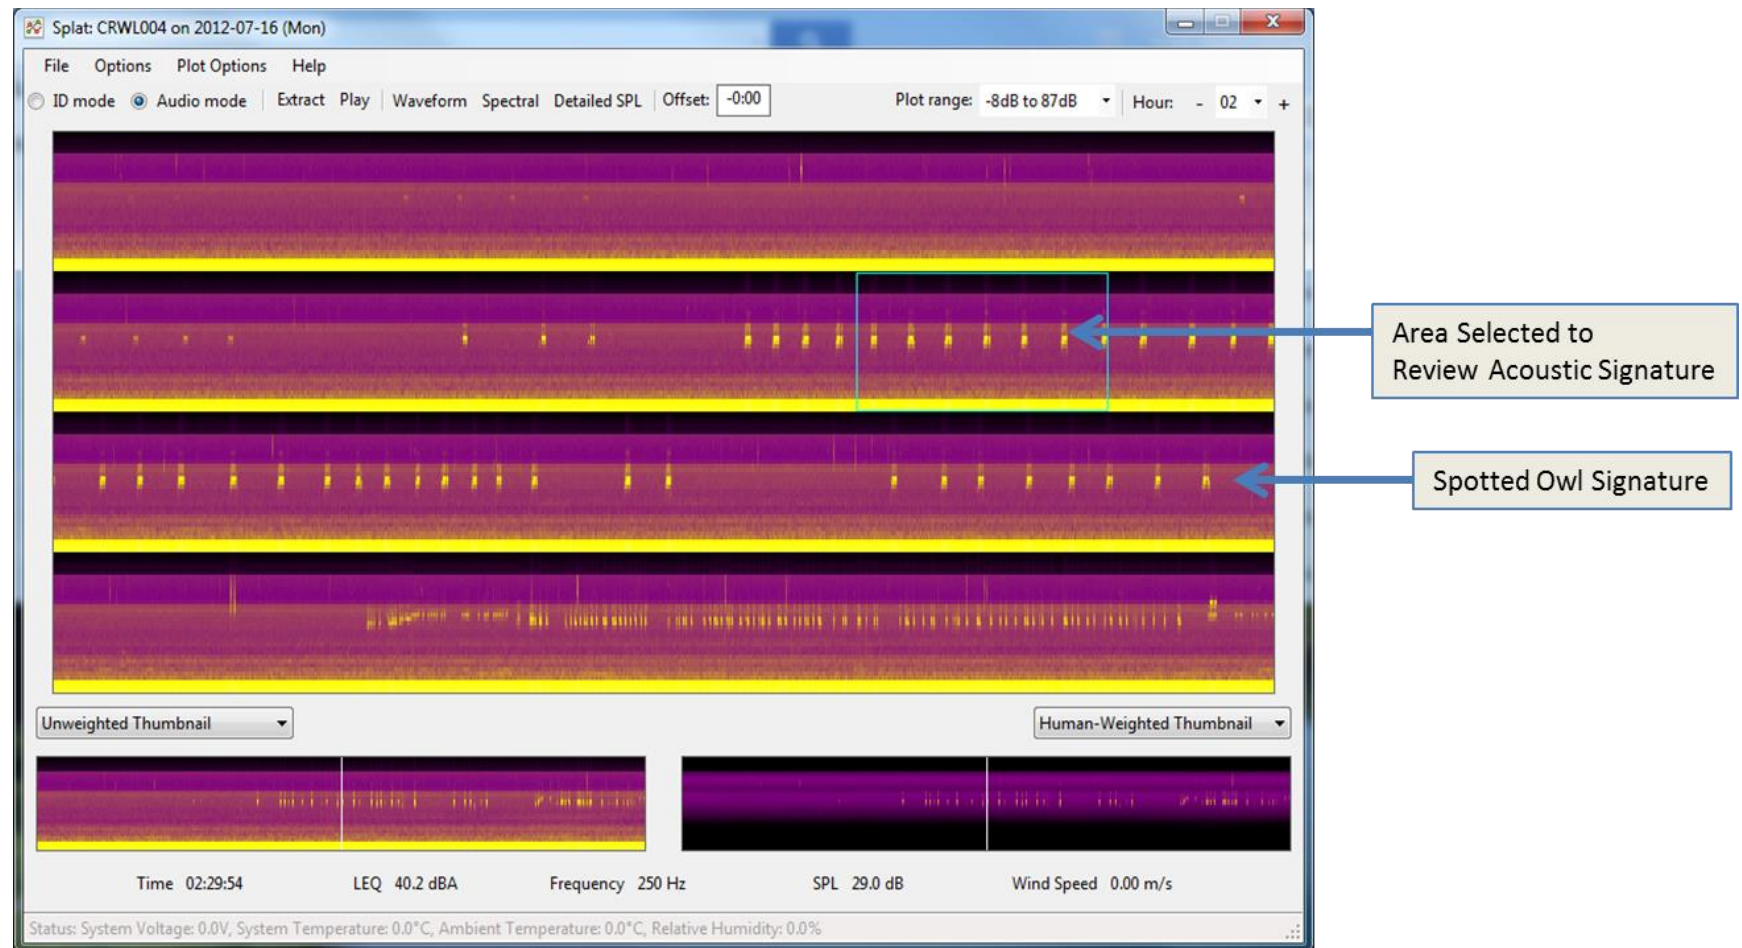

Figure 1. Example spectrograph showing a classic acoustic signature of a NSO 4 note call, Barred Owl Who-Cooks call, or a classic Great Horned Owl call.
7. You can now begin looking through the spectrograph for the signature (Figure 1) NSO/Barred Owl call. In the upper right corner, click the “+” button to advance the time ahead by 1 hour. Continue this process until you have reviewed the entire day.
9. The spectrograph signature of the classic NSO 4-note call, Barred Owl who-cooks call, and Great Horned Owl call have a somewhat similar signature (Figure 1). If you see anything that looks similar to the signature shown in these examples you should listen to them.